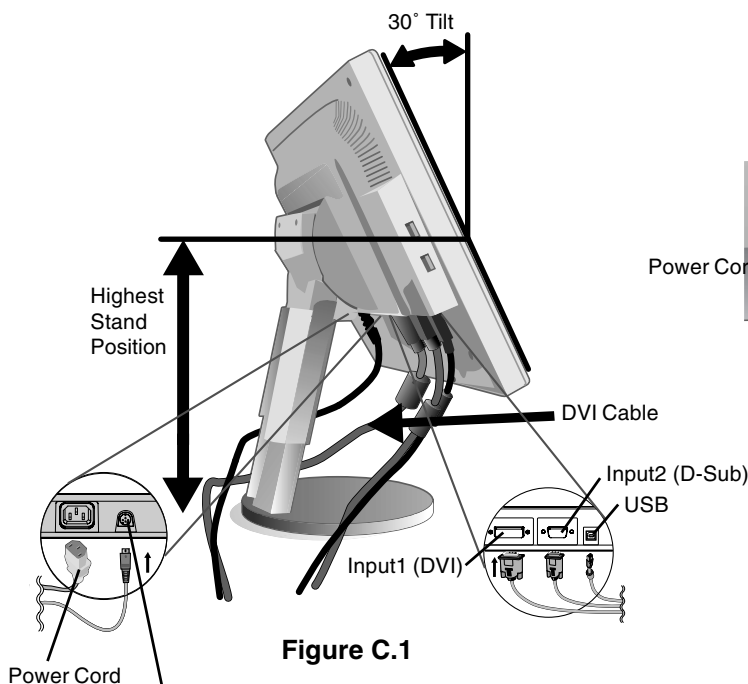

Figure C.1
3. Place hands on each side of the monitor to tilt the LCD panel 30-degree angle and lift up to the highest position (**Figure C.1**).
4. Connect all cables to the appropriate connectors (**Figure C.1**).
NOTE: If connecting both DVI and D-sub cable, the DVI cable must be connected along side the rib on the power cord side (**Figure C.1**).